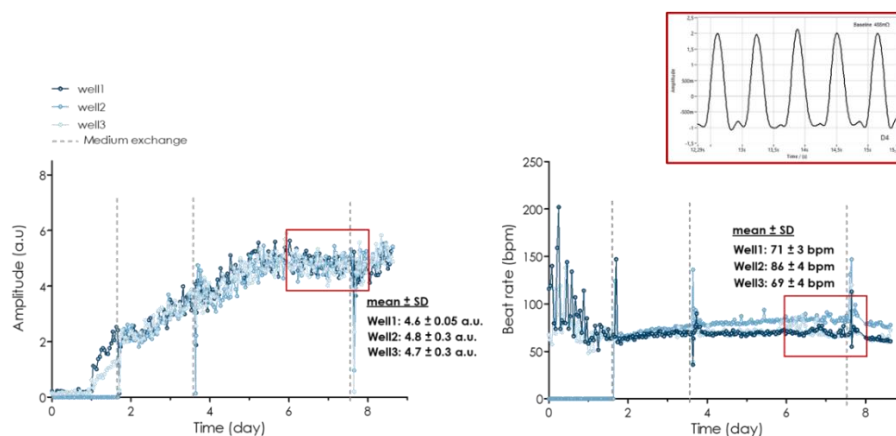

Figure 3. Cardiosight[®]-S cardiomyocytes form functional monolayers as recorded on FLEXyte 96.
6. We recommend to perform experiments from day 6 post plating when the cardiomyocytes have reached a stable baseline (Figure 3).